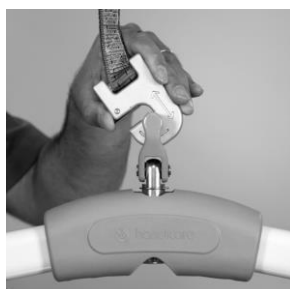

Figure 11: Tilt the hook
3. Hold the latch down and tilt the hook about 90° (figure 11).